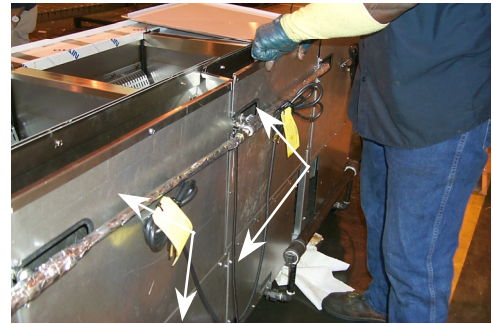

Figure 2. Remove cabinet backs to access connection points.
3. Remove the upper and lower back panels (Fig. 2, arrows) of the cabinets to be joined. Set screws and back panels aside for reassembly.